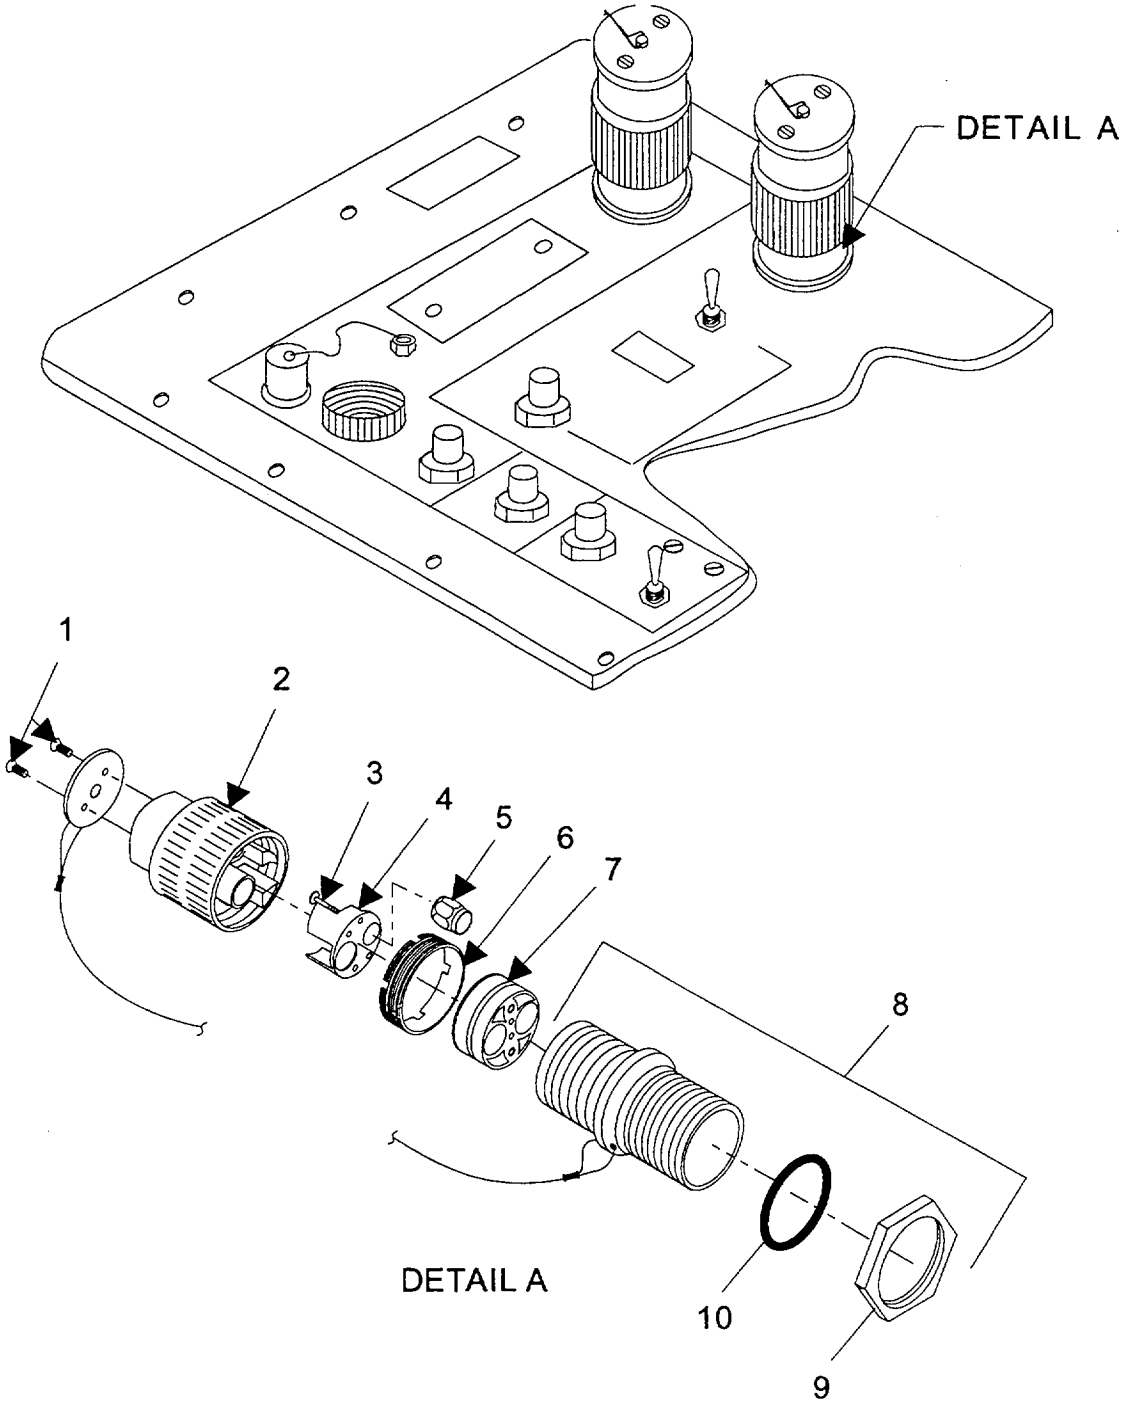

Figure 5-9.4. Lanyard Receptacle Assembly.
- (1) Remove PS CCA (refer to para. 5-10a).
- (2) Remove FTF CCA (refer to para. 5-9a).
- (3) Remove MCF CCA (refer to para. 5-8a).
- (4) Disconnect dust cover (2, Fig. 5-9.4) from FOBC.
- (5) Using flat tip screwdriver, remove two screws (1) from top of dust cover.
- (6) Using flat tip screwdriver, remove two flathead screws (3) of sleeve retainer assembly (4) from connector body (7).
- (7) Remove sleeve retainer from connector body and biconic sleeve (5) from sleeve retainer.
- (8) Using spanner wrench, remove fiber optic connector locking sleeve (6).
- (9) Using installation tool, remove receptacle connector body assembly (7).
- (10) Place open end adjustable wrench on outer side of Lanyard Receptacle (8) in Front Panel Assembly.
- (11) Place a 1 3/8-inch socket wrench on nut (9) securing Lanyard Receptacle Assembly to Front Panel Assembly. Remove nut and set aside.
- (12) Remove Lanyard Receptacle Assembly, containing connector locking sleeve and connector body assembly, and lanyard receptacle "O" seal ring (10) from Front Panel Assembly and set aside.